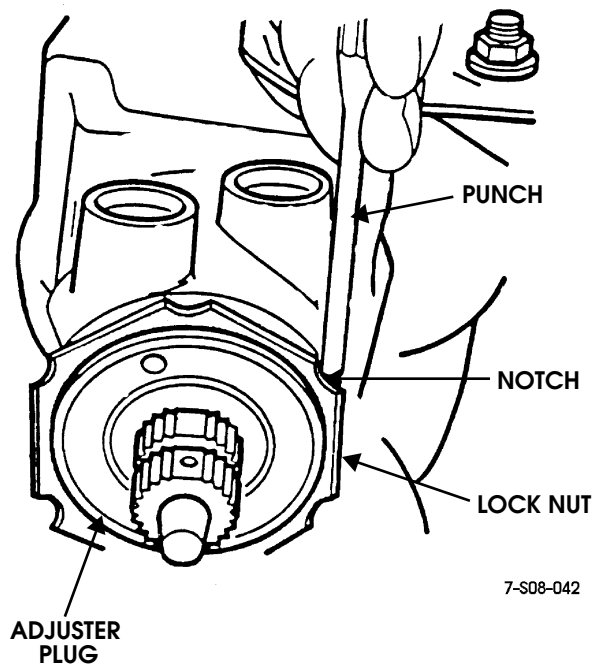

Figure 8-69: Securing Adjuster Plug Locknut
8. Install adjuster plug locknut. Hold adjuster plug from turning with spanner wrench while tightening locknut. Tap locknut with hammer to tighten. Then use punch to secure nut (Figure 8-69).